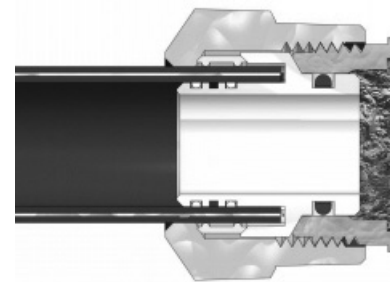

Fig. 2
5. Assemble tailpiece to tubing using a “twisting” motion to avoid O-ring damage. Push the tailpiece fully home to assure bottoming of tube to the insulating washer in the tailpiece. (Fig. 2)